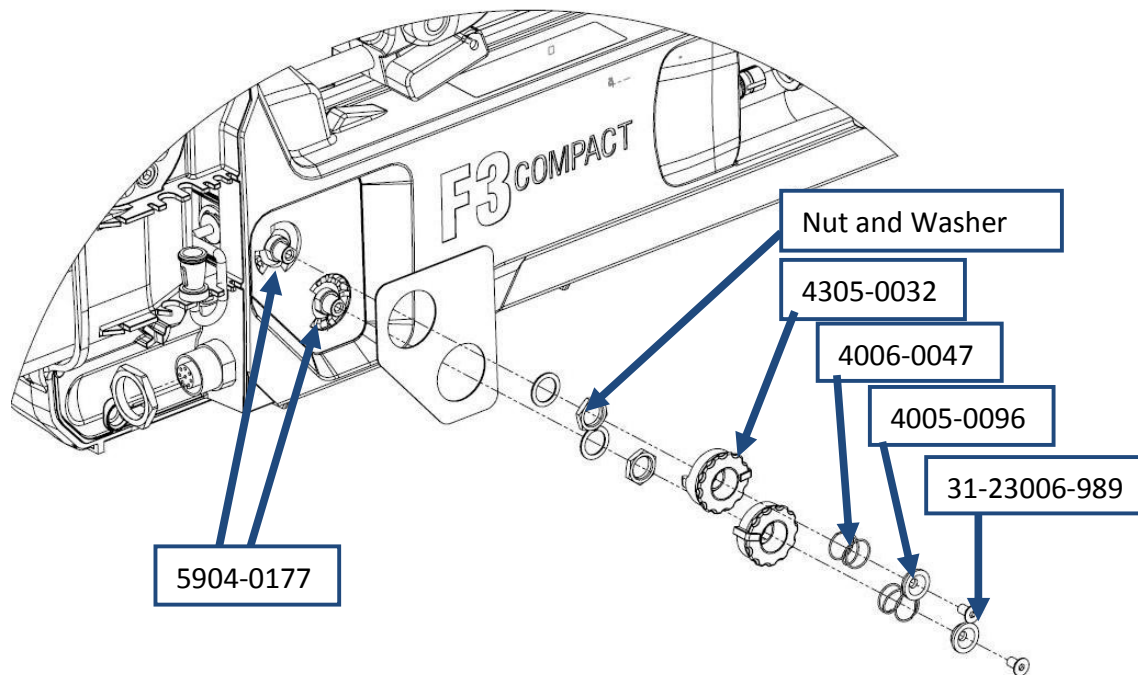

Figure 91: Switches Kit
a. The control switches are a line replaceable unit and are available as a service kit, 3004-0054 Switches Kit which includes all associated parts. Figure 91 illustrates all parts.